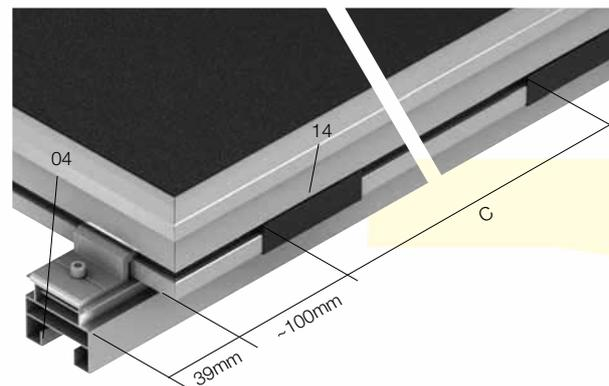

Figure 82: Positioning the Mounting Hooks
9. Hook two further mounting hooks into the lower mounting rail, see Figure 82, Positioning the Mounting Hooks.